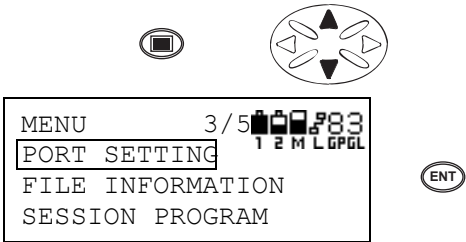

Figure 3-77. Initiate Menu Mode, Scroll to Port Setting, and Press Enter
1. Press the **menu** key to enter the menu mode. Press the **up/down cursor key** to select PORT SETTING and press **ENT** (Figure 3-77).